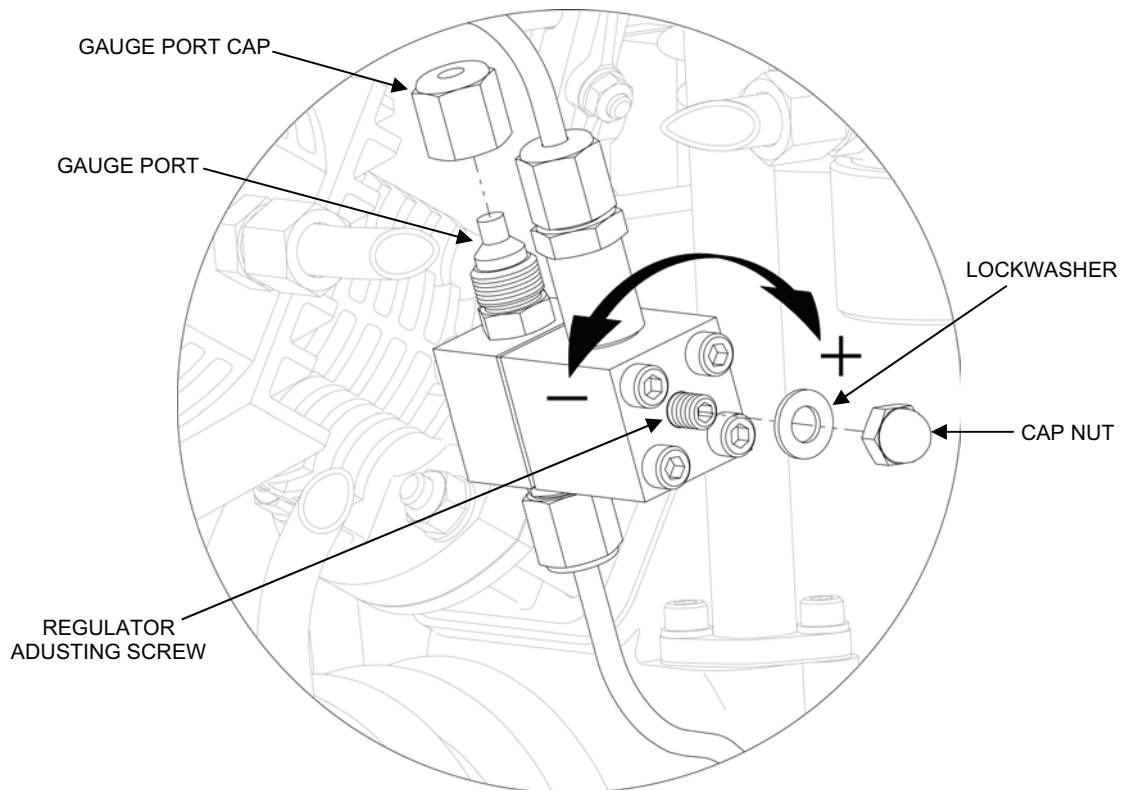

Figure 4. Oil Pressure Regulator Adjustment.
6. Adjust the new regulator as follows (see Figure 4):